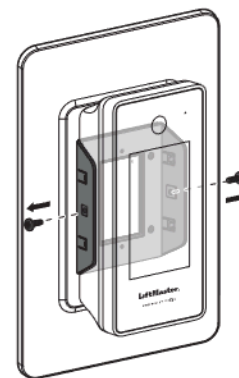

Figure 6
1. If installing on an existing installation, remove the side screws on the CAPXS. Discard these screws. (See Figure 6)